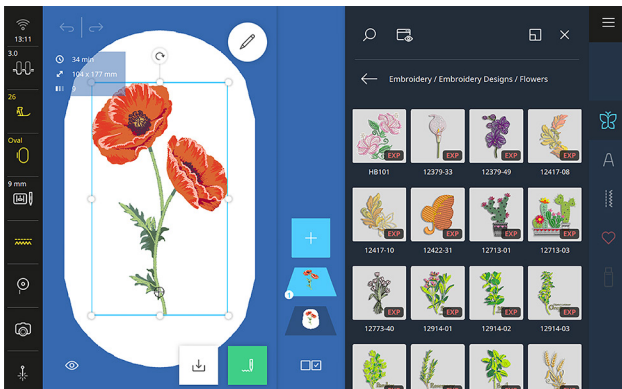

Fig. 6
5. You will see a preview of the design; select it with a one-finger touch. Once selected, the design is added to the Design Altering Area and Layer Bar (Fig. 6).